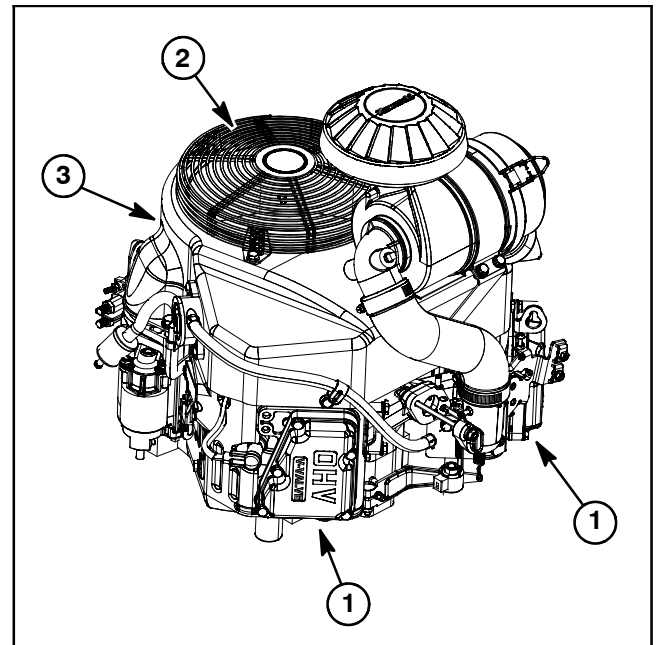

Figure 2
3. Clean screen guard and blower housing of dirt and debris (Fig. 2).